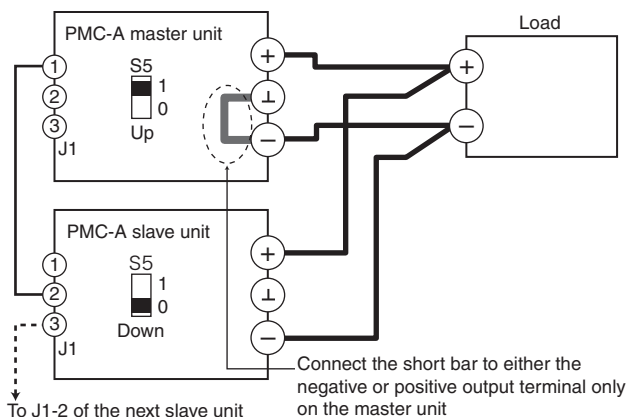

Fig. 4-5 Master-slave parallel connection and setup
4. Connect and set up each power supply as shown in Fig. 4-5. Set the S5 switch on all slave power supplies to the down (0) position.